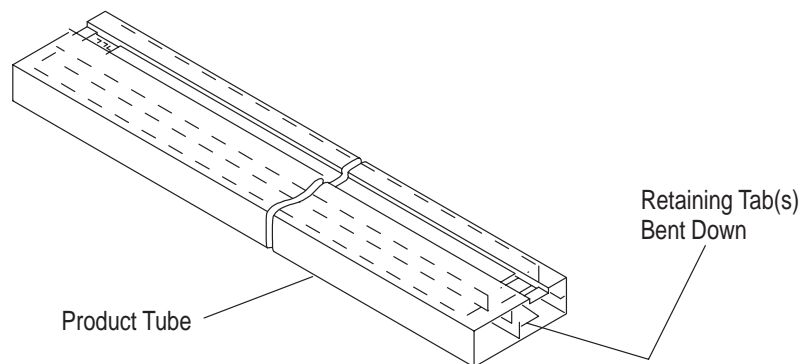

Figure 9
- b. bending down the retaining tabs on both ends of the product tube (see Figure 9 for detail), taking care not to let the connectors fall out of the tube ends;
- a. bending the retaining tabs downward (see Figure 9), taking care not to allow the connectors to fall out;